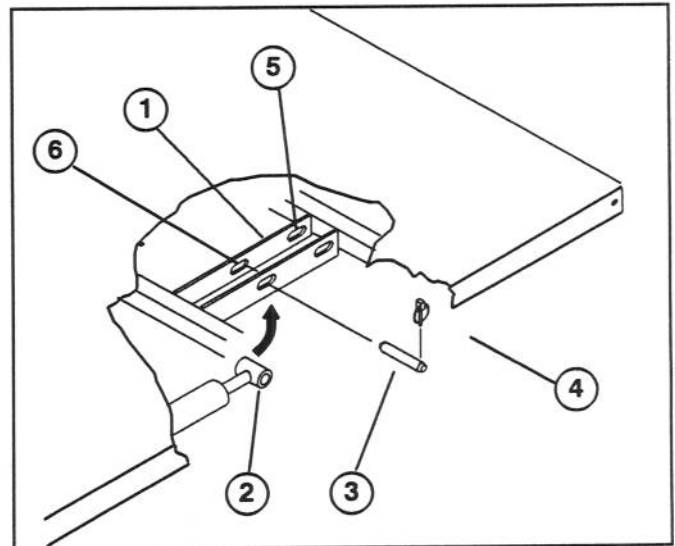

Figure 9
5. With bed lowered, secure each cylinder rod end, to appropriate slots in bed mounting plates with clevis pin and lynch pin. Insert clevis pin from outside of bed with lynch pin toward outside (Fig. 9). Rear slots are for full